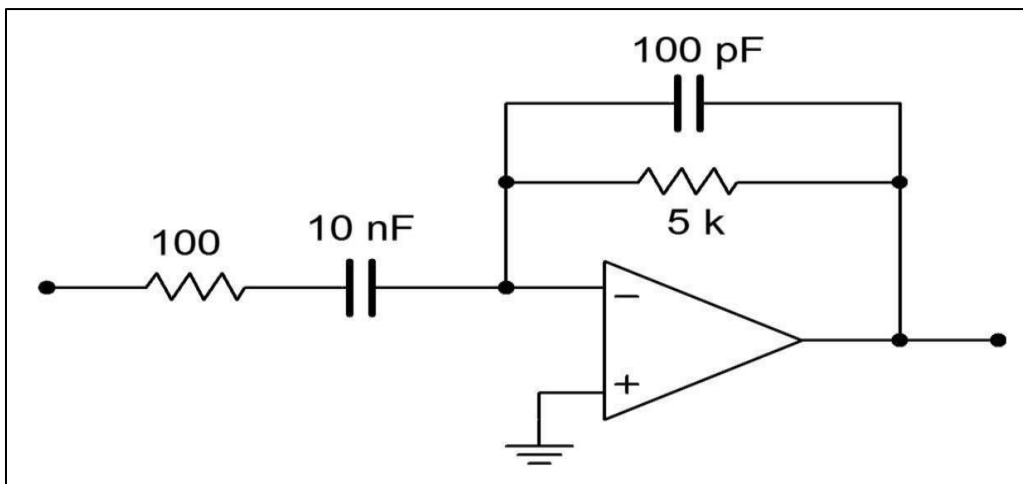

Figure 8.2.3: Differentiator
4. Determine the useful range for differentiation in the circuit of Figure 8.2.3. Also determine the output voltage if the input signal is a 2 V peak sine wave at 3 kHz.